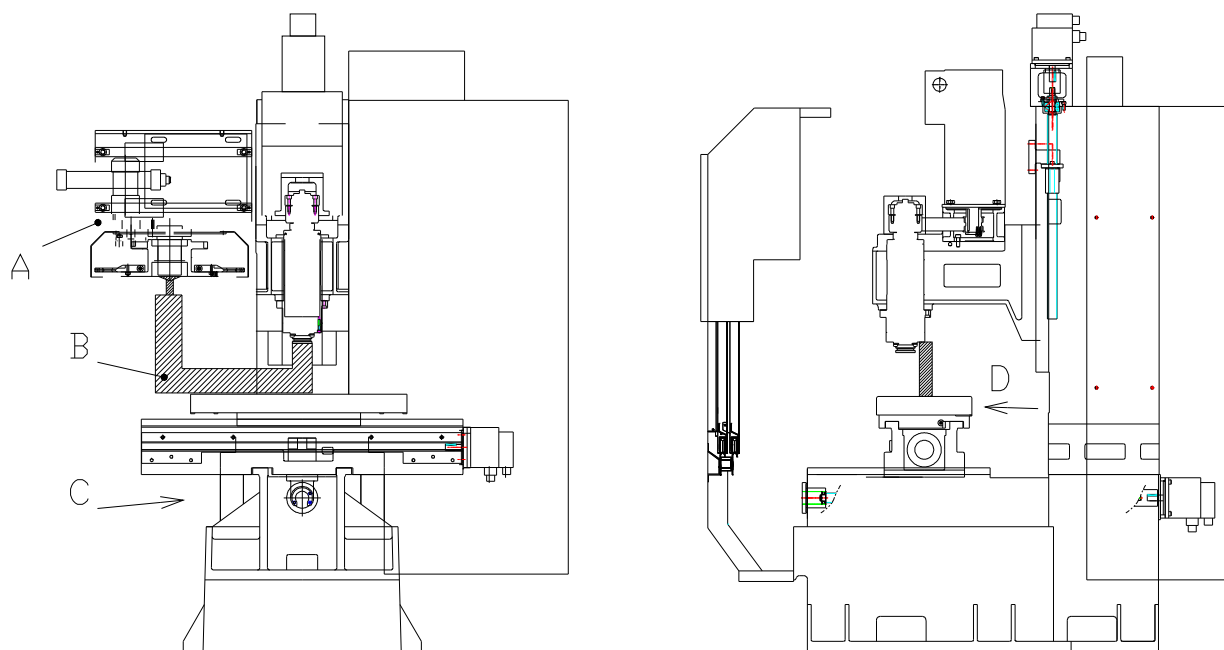

FIG. 4.2.1 LOCKING DEVICE
- A. ACCORDING TO THE DRAWING FIG. 4.2.1, REMOVE ALL LOCKING DEVICES USED TO SECURE THE MOVABLE COMPONENTS OF THE MACHINE DURING THE TRANSPORT, SUCH AS Y AXIS LOCKING DEVICES (2 AND 3), X AXIS LOCKING DEVICES (4 AND 5) AND ATC LOCKING DEVICE (1) (18 TOOLS ATC).
- B. HOWEVER, DO NOT REMOVE THE SPINDLE HEAD SUPPORT DEVICE (9) WHICH SHOULD BE REMOVED AFTER THE POWER SOURCE IS GIVEN TO THE MACHINE. (SHOULD CONTINUE TO READ THIS MANUAL UNTIL 7.8 FOR REMOVING ALL LOCKING DEVICES.)